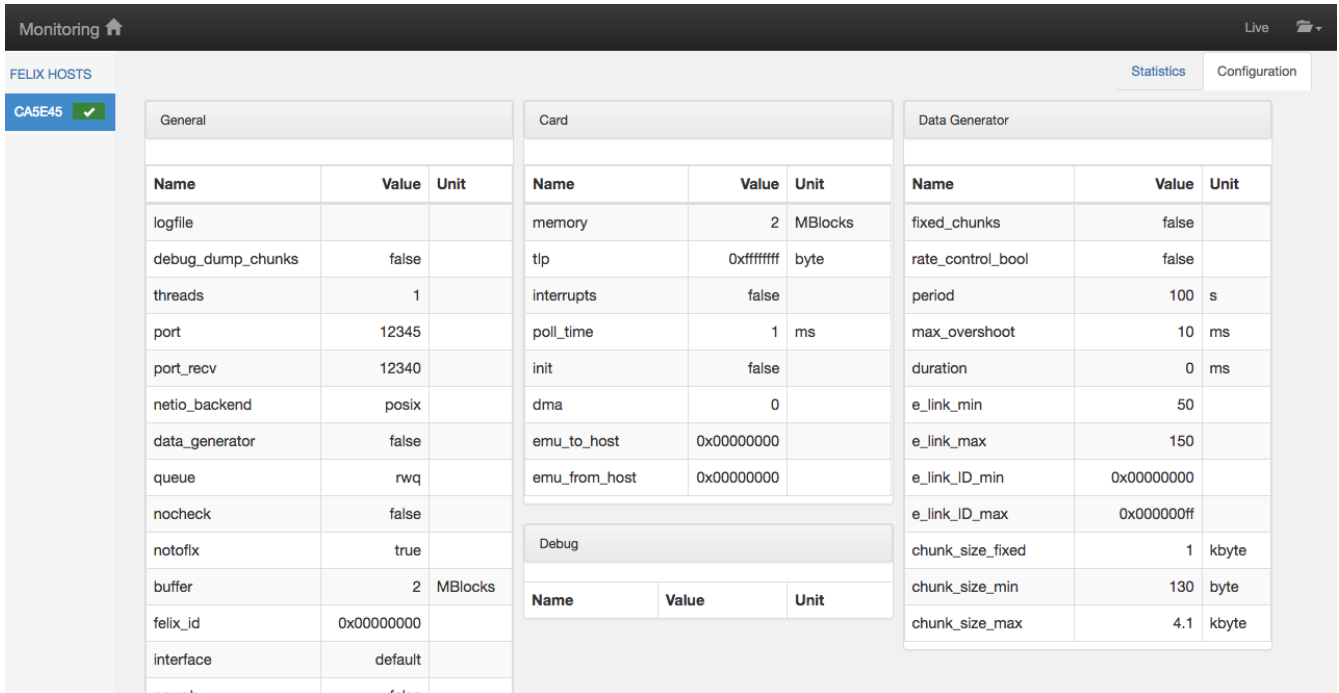

Figure 49. felix-web-mon config page.
- The Configuration tab: showing the configuration data of corresponding FELIX host (Figure 49).